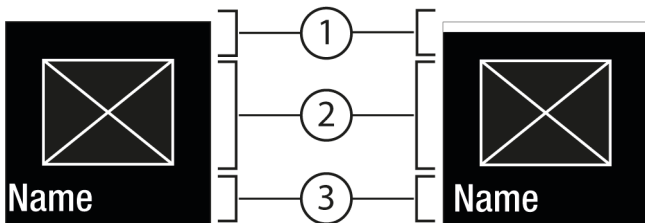
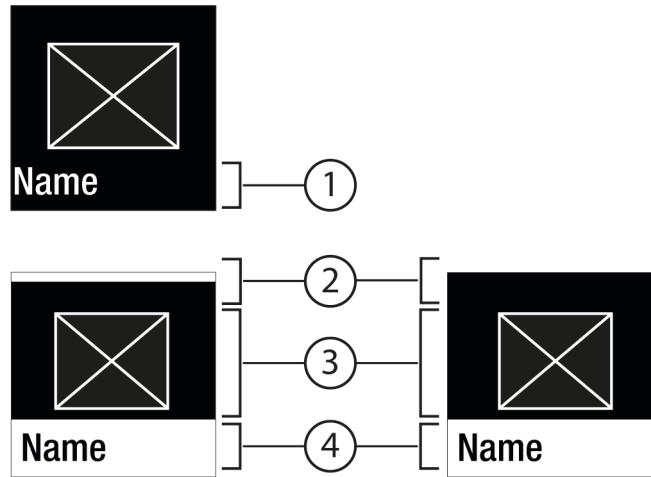

Fig. 6
Fig. 7
- Press Confirm Fig. 5 (2) to go to the submenu Fig. 7 (4).
- Set new level: Press Confirm Fig. 5 (2) to select a deselected value Fig. 6 (1).
- Back to menu: Press Confirm Fig. 5 (2) to select the selected value Fig. 6 (2).
- ▷ Status: on *Fig. 6 (1)* appears briefly in the submenu *Fig. 7 (4)*.